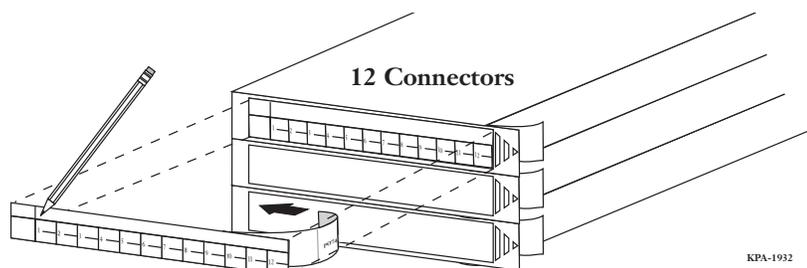

Figure 9
- Step 7:** Affix the designation label to the handle (Figure 9).